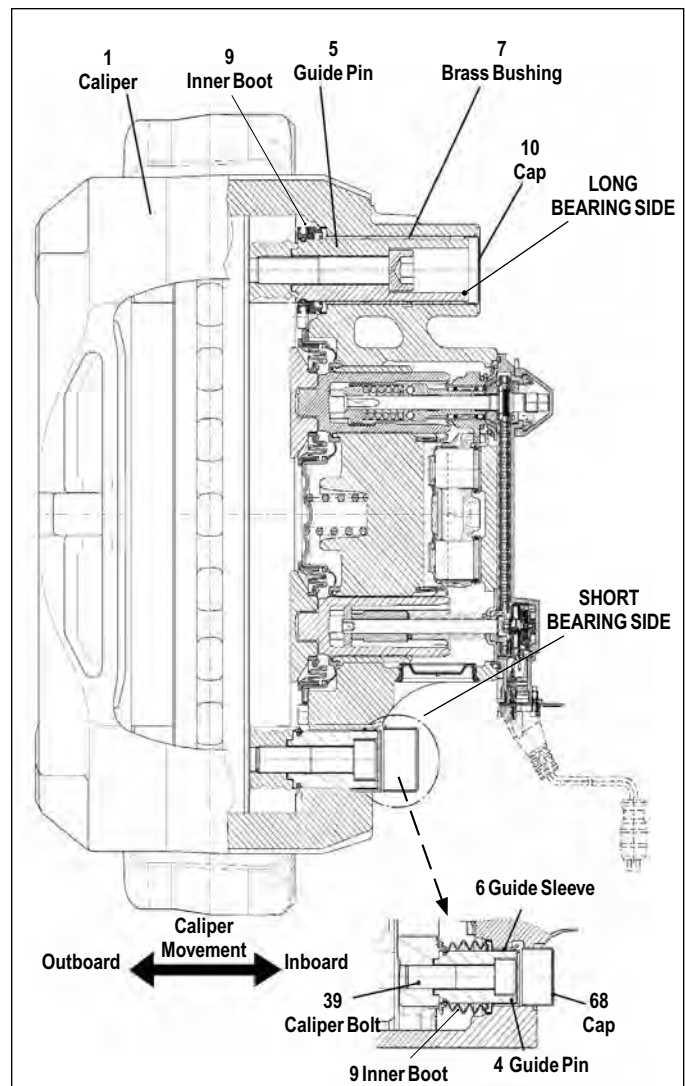

FIGURE 26 - GUIDE PINS
4.5.2 See Figures 26 and 27. With the wheel removed, remove the pad retainer bar (11). Temporarily replace the pads with two new pads (12). Attach a magnetic dial-gauge holder to the carrier (2) on the short bearing side of the caliper (1). Use the measuring point on the caliper (1) - see the callout